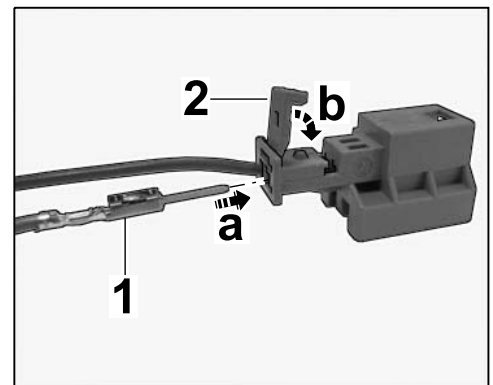

Figure 12
- 2.3.6 Insert pin contact of the YE/GY line ⇒ *Figure 12* -**1**- into the pin connector socket ⇒ *Figure 12* -**arrow a**-.
Close secondary lock ⇒ *Figure 12* -**2**- (⇒ *Figure 12* -**arrow b**-).